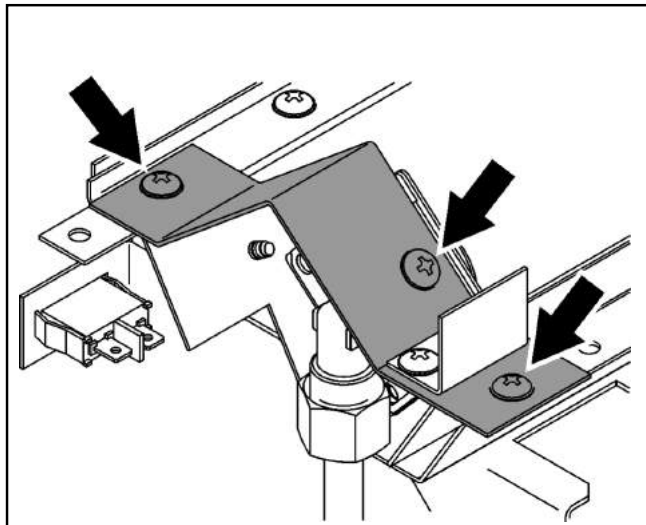

Figure 36. Burner clamping plate
2. Unscrew and remove the burner clamping plate from the upper right hand side of the burner. Remove all three screws for ease (See figure 36).